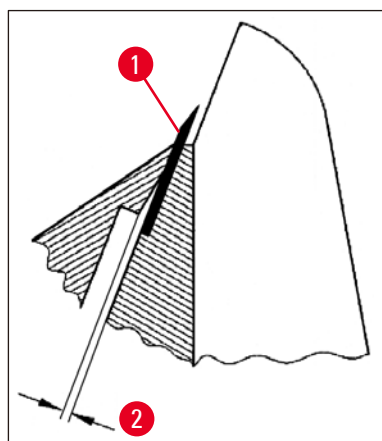

Fig. 37
- Use the screw (→ Fig. 36-4) to adjust the pressure plate (→ Fig. 36-2) so that only the upper edge of the pressure plate puts pressure on the blade. A gap must be visible (→ Fig. 37). A small screwdriver (approx. 3.0 x 70) is required to make the adjustment.